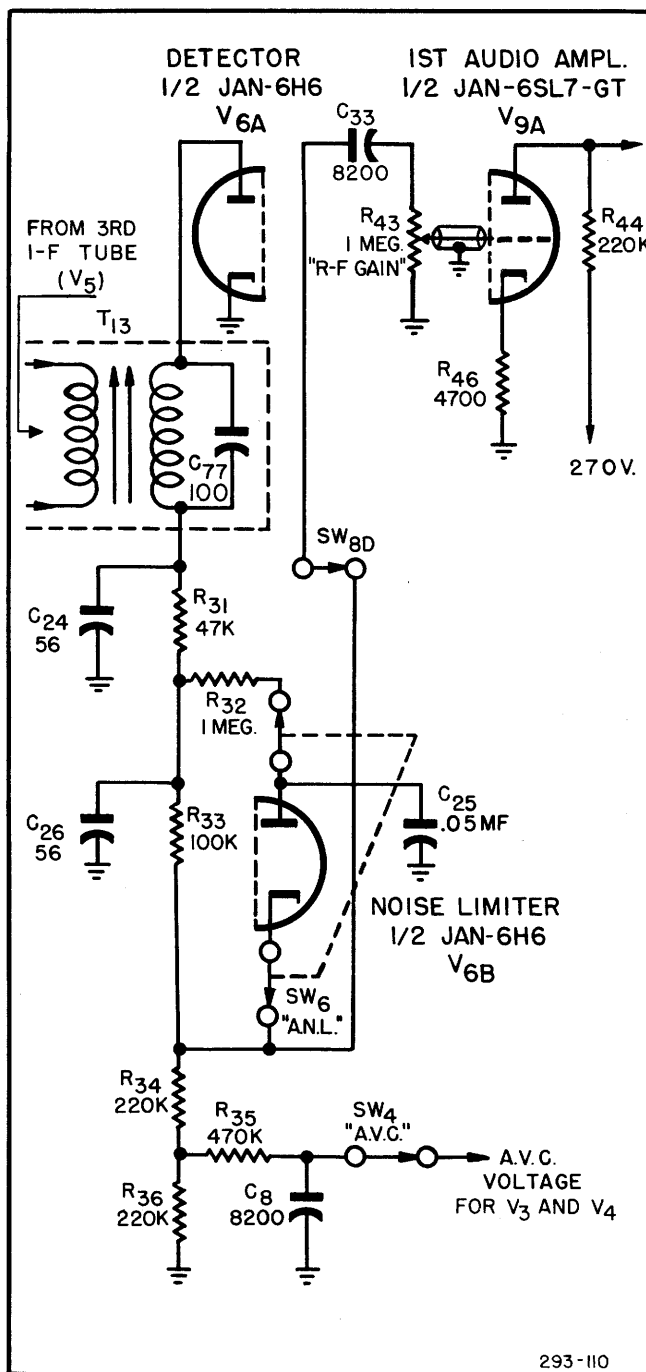

Figure 2-6: Types CHL-46130-C and CHL-46130-D Receiver, A.M. Detector and A.N.L. Simplified Schematic Diagram.
(4) DIODE DETECTOR AND AVC STAGE.—The A-M signal from the third i-f tube (V5) is coupled across the fourth i-f transformer (T13) into the Diode Detector stage. This stage uses one-half of the Type JAN-6H6 duo-diode tube (V6A). (Refer to Figure 2-6). The voltage rectified by the diode elements is developed across the resistor network (R31, R33, R34, R36) between the secondary of the transformer (T13) and the cathode of the tube (V6A). Any r-f component of this voltage is by-passed through the capacitor, C24. The audio input signal is tapped off at